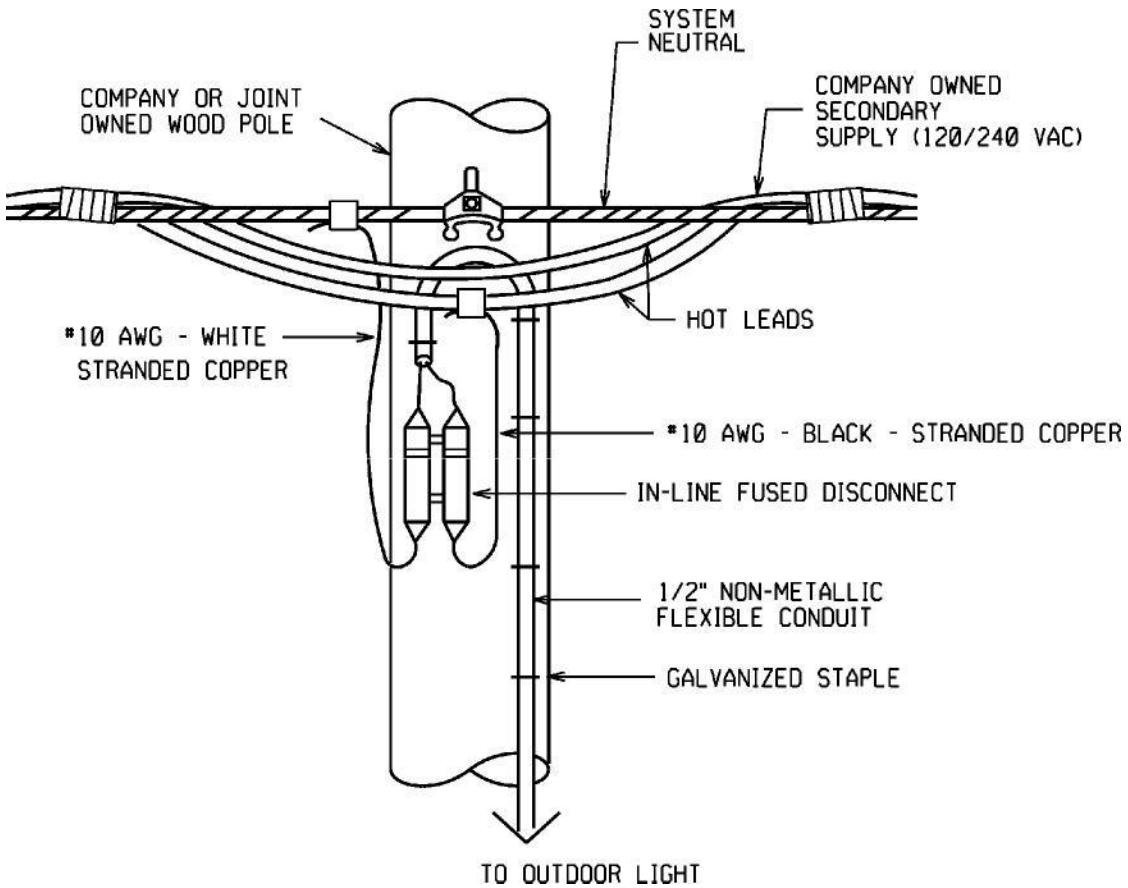
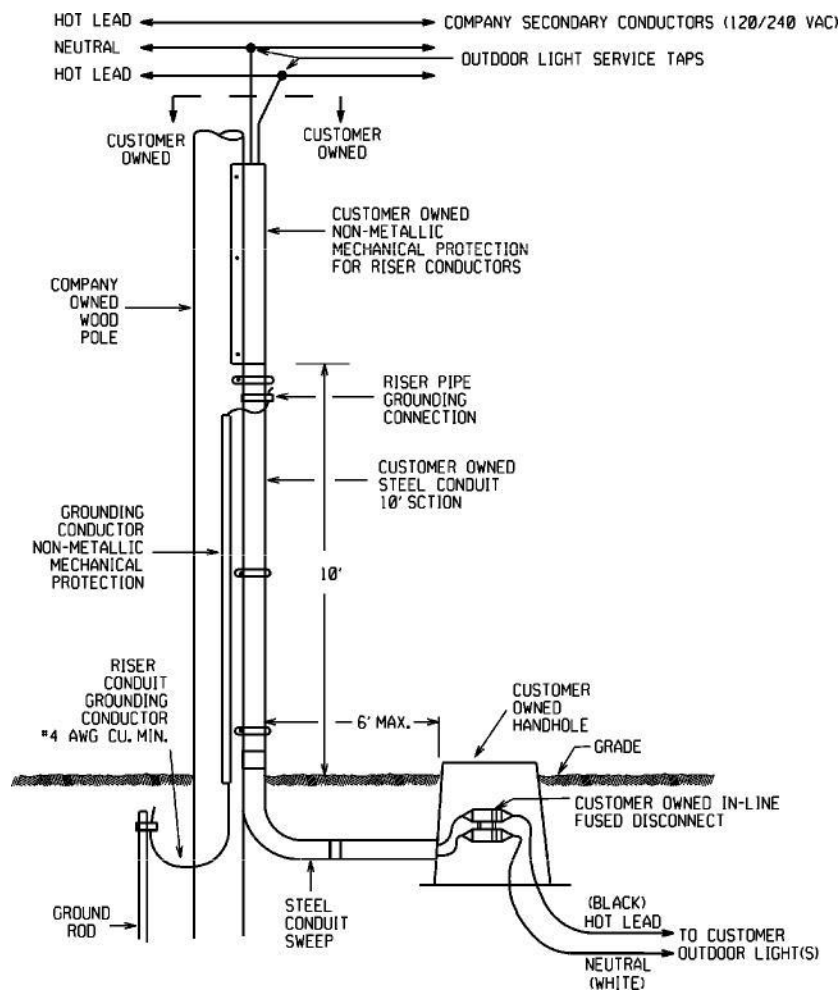

Figure 6 – Connection of Overhead Supplied Customer Owned Outdoor Light to National Grid Overhead Secondary Conductors
Figure 7 – Connection of Customer Owned Outdoor Lighting Riser to National Grid Overhead Secondary Conductors
Electrical Separation: The customer is responsible to create an electrical separation between the National Grid secondary conductors and the customer owned outdoor lighting conductors. This is required to insure the safety of National Grid and customer employees. It also clearly defines where National Grid ownership ends and customer ownership begins. This is accomplished by installing a dual pole in-line fuse holder with a midjet cartridge style fuse on every outdoor light supply located as near as possible to the connection to the National Grid owned secondary conductors. This fuse, in addition to providing electrical protection, shall serve as a future disconnect point for the customer owned outdoor light. Once installed, the customer may disconnect or reconnect a customer owned outdoor light only by means of the in-line fuse holder. See Figure 6 for overhead supplied outdoor lights, and Figures 7, 8, 9, or 10 for underground supplied outdoor lights. See Figure 12 for in-line fused disconnect details.
1. Install customer owned handhole as shown in Figure 7. Customer owned handhole shall house the in-line fused disconnect. See page 14 for details on the in-line fused disconnect.
3. No more than (2) riser conduits may be attached to a pole. Consult National Grid Engineering if more than (2) risers are desired.
1. For all new installations and modifications to existing installations, the customer is required to install an in-ground handhole located as close as possible to the company provided electrical source point, as illustrated in Figures 7, 8, and 9.